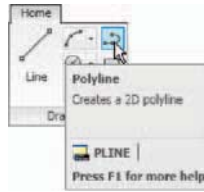

Fig. 3.25 Selecting **Polyline** from the **Home/Draw** panel
1. Select **Polyline** from the **Home/Draw** panel (Fig. 3.25).